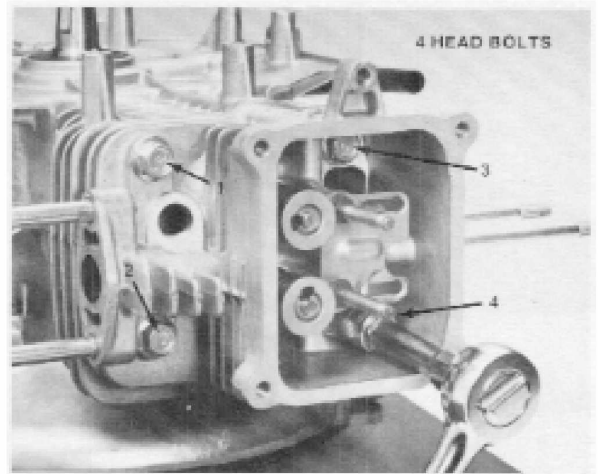

Figure 4-55
4. Insert the four head bolts and torque to 1.8 -2.8 kg-m (13 - 20 ft-lb). See Fig. 4-55.